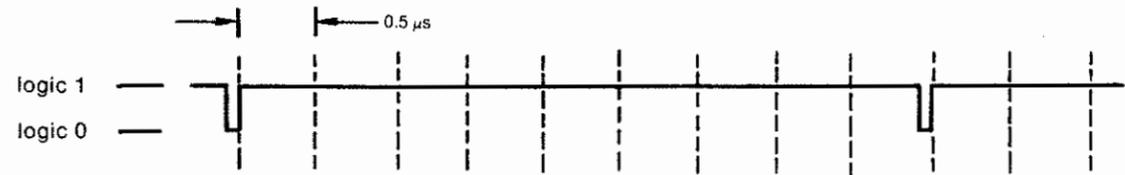

Figure 6-2. Waveform at Point DC ($\overline{\text{DCLK}}$)
4. Adjust position and sweep controls on scope so that the positive-going edges of two consecutive pulses are aligned with the first and the ninth vertical division lines. See figure 6-2.